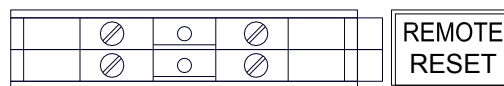
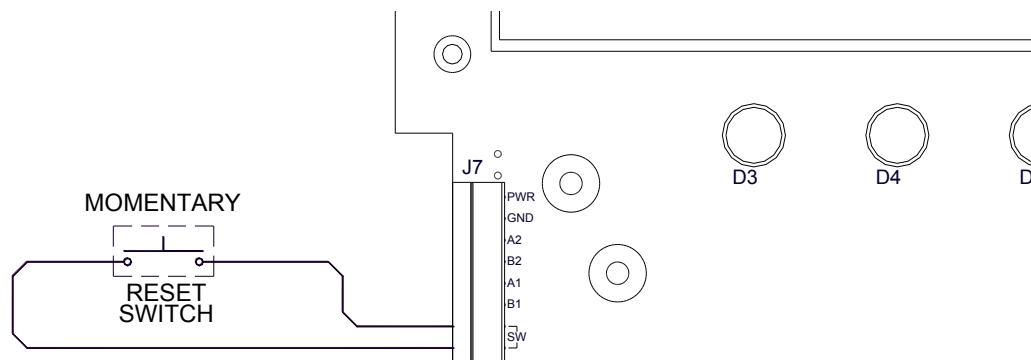

Figure 22 N1P & N4X Remote Switch Input
Figure 23 N7 Remote Switch Input
- b. Connect the Remote Alarm Reset/Acknowledge switch to the terminals of the terminal block labeled "REMOTE RESET" for the N1P and N4X controllers (Figure 22). For the N7 controller, connect the switch to the terminals "SW" on connector J7 (Figure 23) Once installed, pushing the switch will execute the reset/acknowledge function.